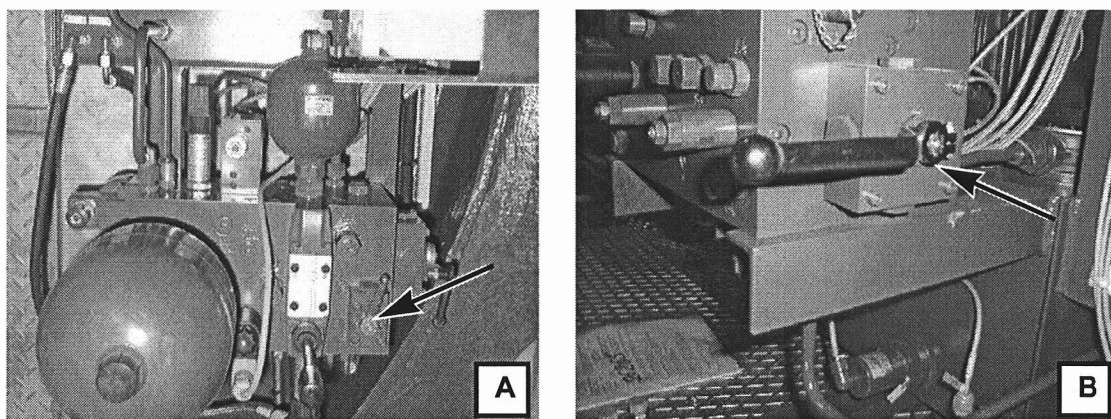

Fig. 63 Locking the rotor
- Turn the lever of valve 280 on the hydraulic unit to the right as far as it will go, see Fig.63
- Pull the lever of valve 290 on the side of the hydraulic unit upwards, see Fig.63